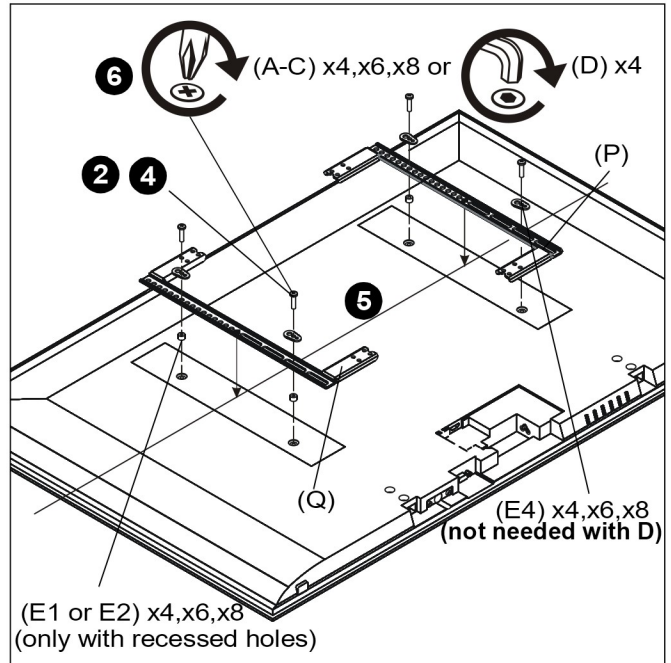
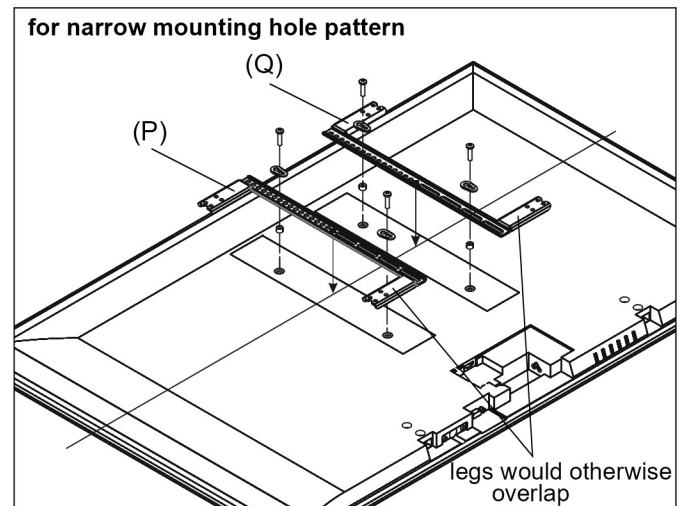

Figure 12
Figure 13
2. Select screw *diameter* by examining hardware (A-D) (4mm, 5mm, 6mm or 8mm) and comparing with mounting holes on display. (See Figure 12)
3. Select spacers: (See Figure 12)
4. Select screw *length*: (See Figure 12)
- NOTE:** Universal washers (E4) are not needed if using M8 button head cap screws (D).
5. Place uprights (P and Q) on display, ensuring: (See Figure 13)
**NOTE:** If installing to a display with a narrow hole mounting pattern (less than 400mm wide), reverse uprights (P and Q) so that the upright legs do not overlap onto each other. (See Figure 13)
6. Using Phillips screwdriver, carefully install selected screws through universal washers (E4, if required), uprights (P and Q), and spacers (E1 or E2, if required), into display. (See Figure 12)